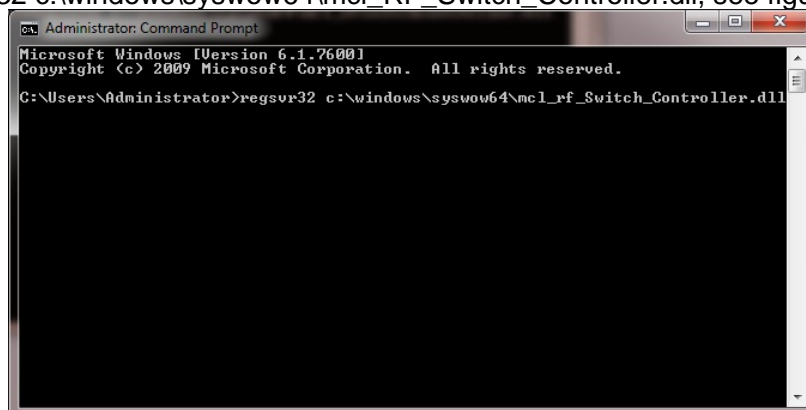

Figure 5 – Type command
- Type `regsvr32 c:\windows\syswow64\mcl_rf_Switch_Controller.dll`, see figure 5